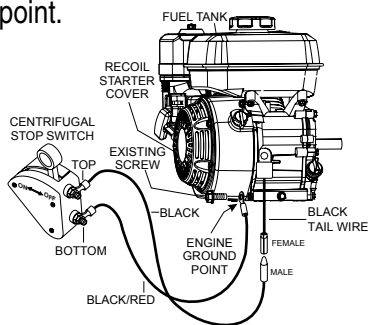

Figure 9. Engine Ground Point
- Remove the existing bottom mounting screw on the recoil starter cover (Figure 9) and connect the **bottom** wire from the centrifugal stop switch to this engine ground point.